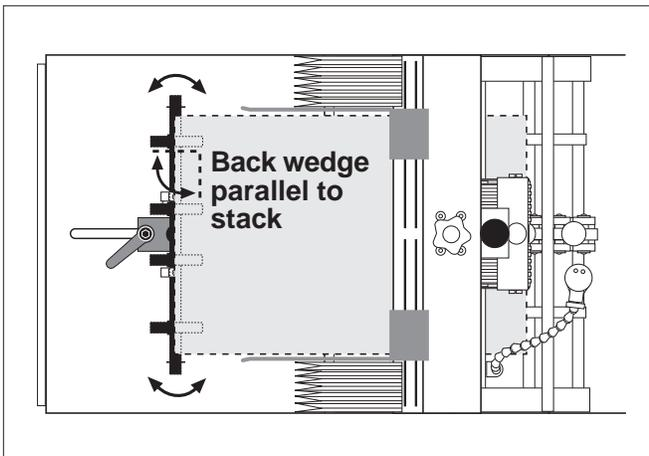

Figure 15. Adjusting Back Wedge for Parallel
5. Make sure the edge of the back wedge assembly is parallel with the edge of the product stack (Figure 15). Adjust as required and then tighten wing-nut.